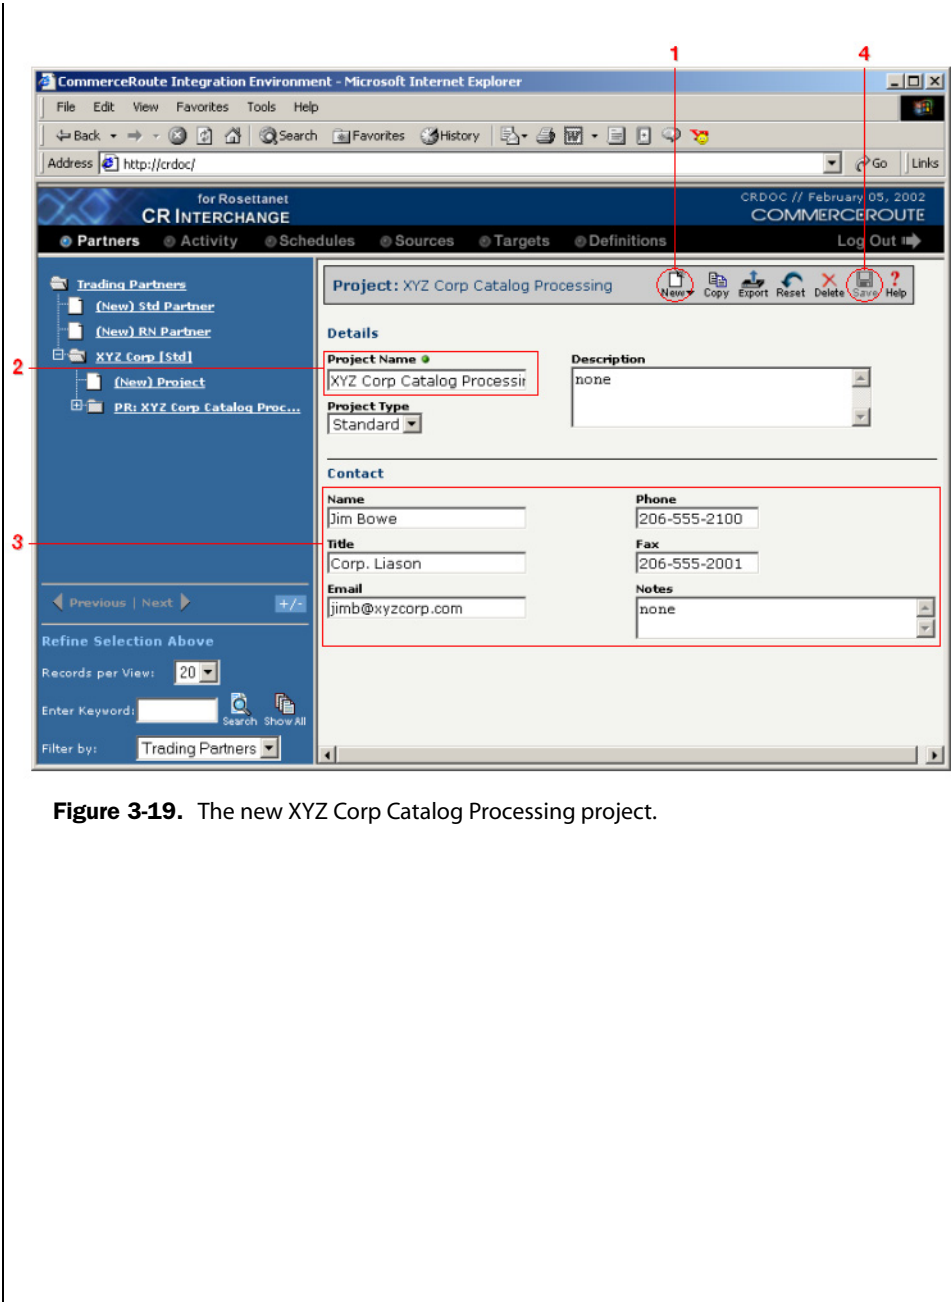

Figure 3-19. The new XYZ Corp Catalog Processing project.
- ➍ When you've finished, click **Save** in the toolbar to save your new project. You should see a new folder appear within your partner with this project's name in the list at the left side of the screen. Compare your project with Figure 3-19 below.